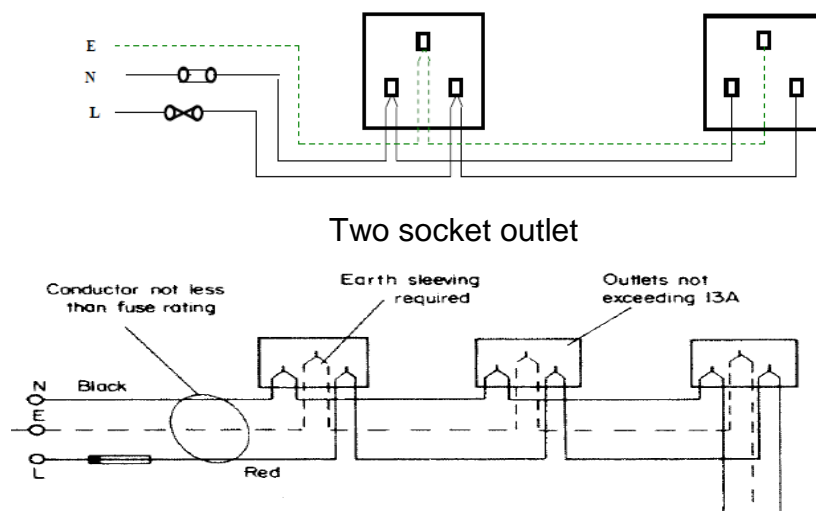

Fig. 1.65 Radial circuits (PVC insulated)
Radial circuits are arranged in the same way as item 1, above, in lighting layouts, in that each socket outlet is supplied via the previous one (Fig.1.65).